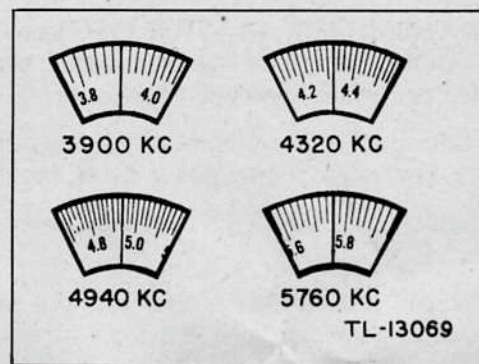

Figure 17. Receiver dial settings.
24. RECEIVER DIAL SETTINGS. The receiver dial is directly calibrated in megacycles (mc) (1 mc = 1,000 kc). Each small division equals 20 kc. Figure 17 shows views of several dial settings and the corresponding frequencies. In reading the dial, disregard the decimal point between the figures on the dial scale. Read in hundreds of kilocycles the pair of numbers to the left of the index line on the window; then add 20 kc for each division between those figures and the index line on the window.